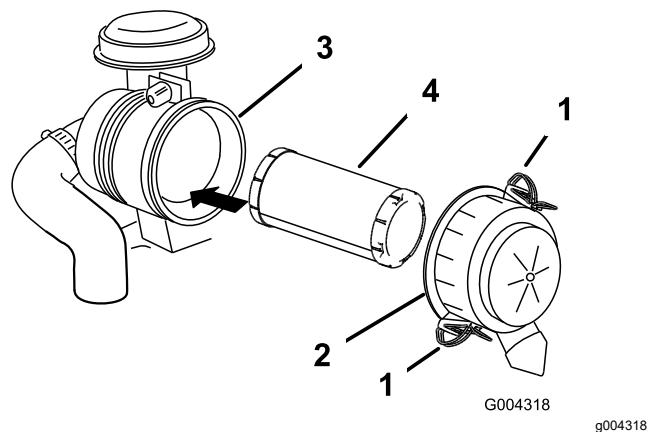

Figure 38
3. Release the latches on the air cleaner and pull the air-cleaner cover off the air-cleaner body (Figure 38).